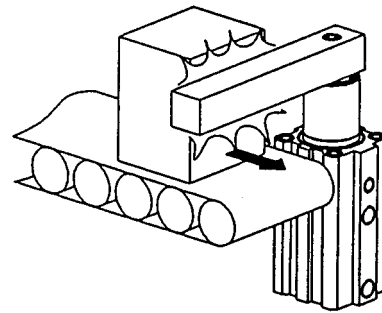

Figure 4
- ② Never perform work (such as clamping or stopping) in a rotational direction (Fig. 4).